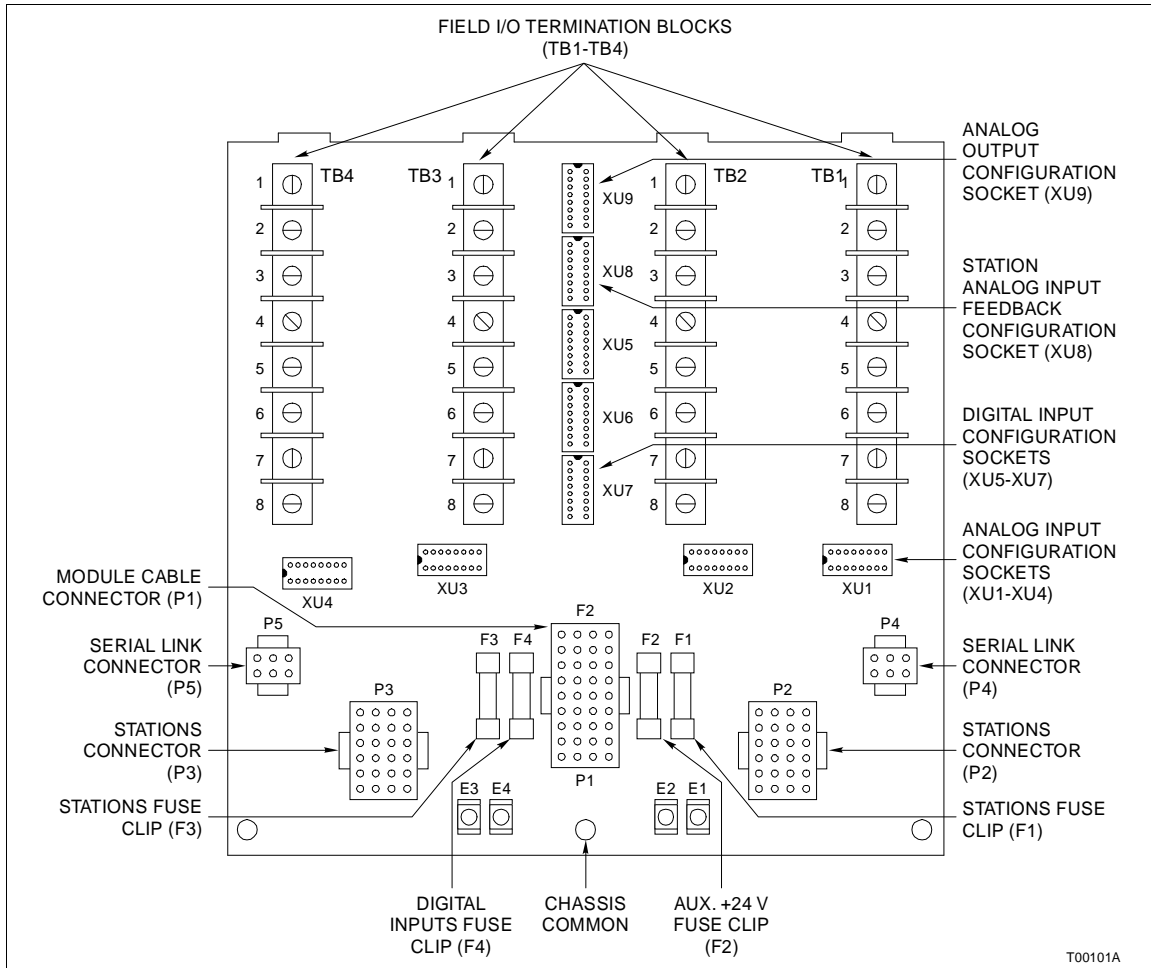
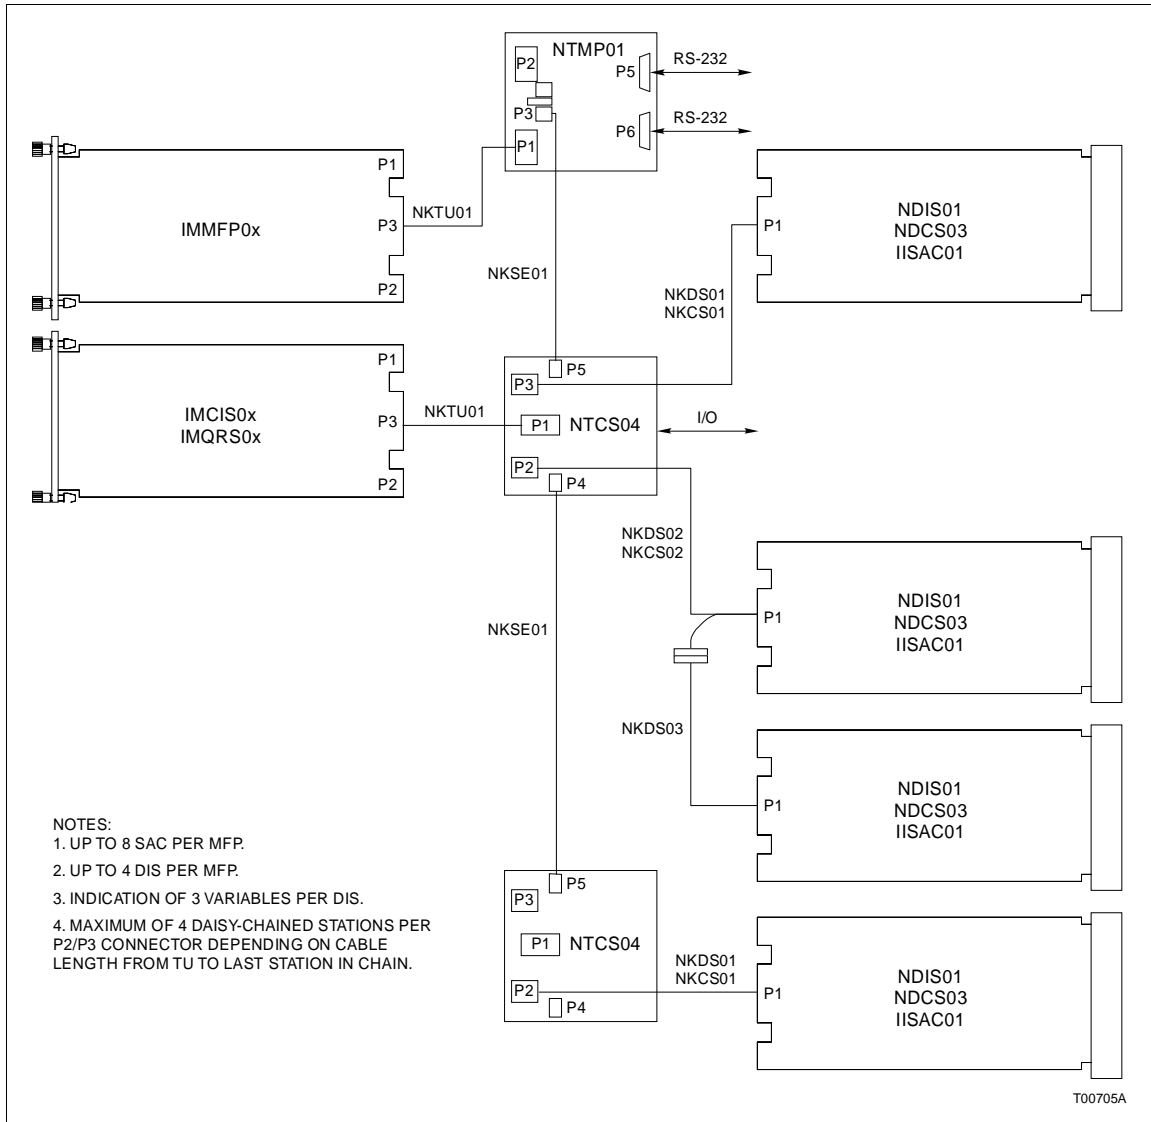

Figure 2-1. NTCS04 Termination Unit Layout
Figure 2-4. Multi-Function Processor Without Termination Unit and Station Cable Connections
1. Install a 4.0 A fuse into fuse clip F1 and F3 (See Figure 2-1 for fuse clip locations).
The Controller/Station Termination Unit (NTCS04) can be set up for several different applications. These include applications with or without control and indicator stations. The TCS terminates analog and digital I/O signals and interfaces them directly to a master/slave module. Figures 2-4 through 2-9 show the cables to use and the cable connections for several different applications of the TCS. See Figure 2-1 for the location of cable connectors P1 through P5.
There are four terminals that provide power and ground connections. See Figure 2-1 for terminal locations. Terminal E1 is the +24 VDC power connection. Terminals E2 and E4 are I/O common grounds. Terminal E3 is for +24 VDC or +125 VDC digital input power. The power source connected to Terminal E3 depends on the digital input logic, signal level required. A